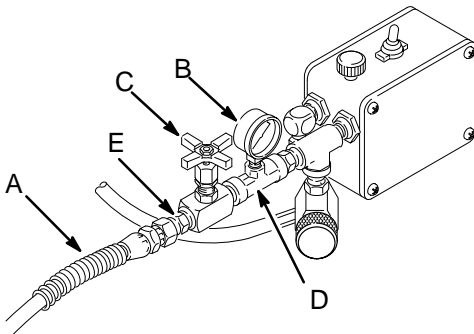

Fig. 17
1. Plumb the pressure control with additional parts as shown in Fig. 17. Connect the needle valve to the open end of the hose.